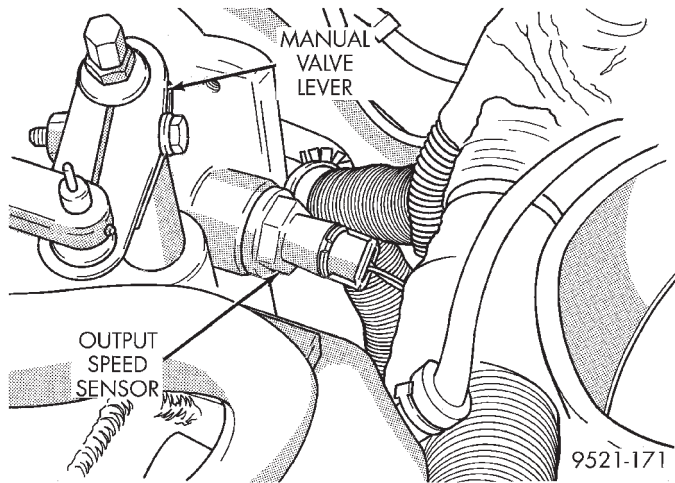

Fig. 52 Output Speed Sensor—Automatic Transmission
(19) Check electrical connection at the vehicle speed sensor (Fig. 52).